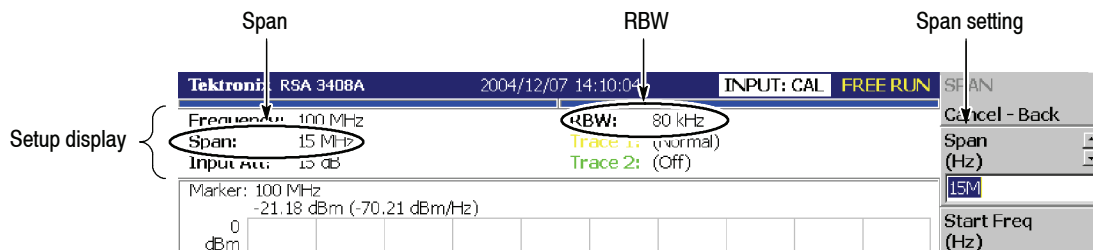

Figure 1-2: Setup display
- b. Confirm that the span is 36 MHz and the RBW is 100 kHz in the setup display on the upper part of the screen (see Figure 1-2).